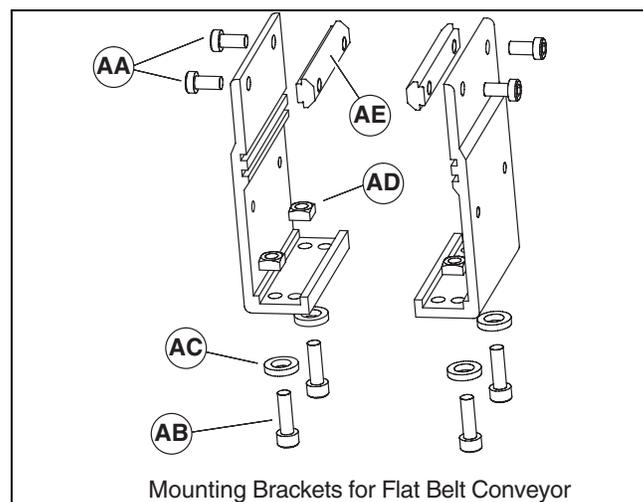
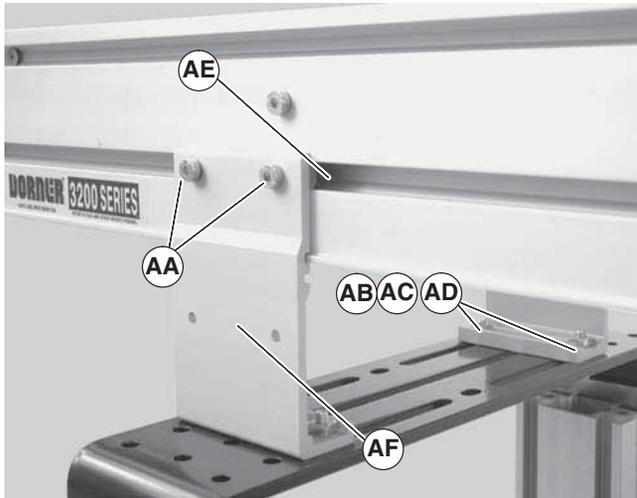

Figure 10
Figure 11
- Locate brackets. Exploded views shown in Figure 10.
- Remove screws (Figure 10, item AA & AB), washers (AC), nuts (AD) and T-bars (AE) from brackets.
- Insert T-bars (Figure 10, item AE) into conveyor side slots (Figure 11, item AE). Fasten brackets (Figure 11, item AF) to conveyor with mounting screws (AA).
4. Fasten brackets to support stand with mounting screws (Figure 11, item AB), washers (AC) and nuts (AD).
5. Tighten screws (Figure 11, item AA & AB) to 60 in-lb (7 Nm).